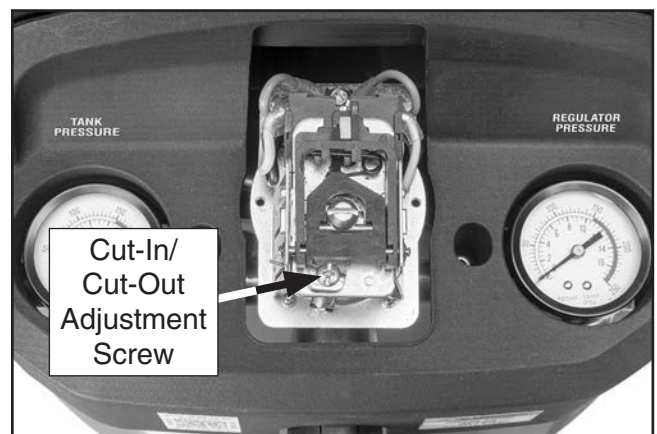

Figure 31. Location of cut-in/cut-out adjustment screw.
5. Adjust screw shown in **Figure 31** to change minimum and maximum tank pressure settings.